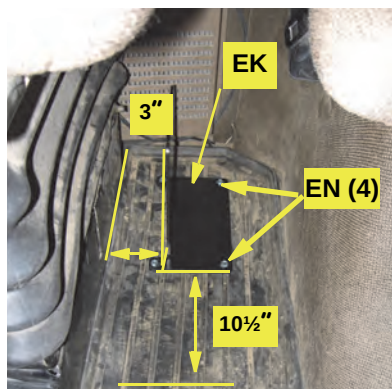

Figure 1b: ECU bracket installation
- b. Facing the one inch tabs of bracket **EK** toward the driver's seat, align the bracket parallel to the machine's seat frame. The bracket should be 3" from side of the seat frame and 10½" from the front edge of the seat frame (Figure 1b).